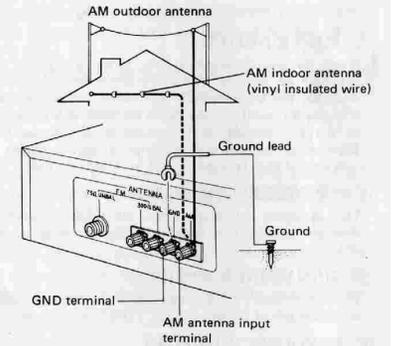

Fig. 5
- If the bar antenna is insufficient for adequate reception, an indoor AM antenna can be made from a length (5 to 6m) of vinyl insulated wire. As shown in Fig. 5, connect one end of the wire to the AM antenna terminal and suspend the free end from an wall or ceiling as high as possible.
- If reception is still poor with an indoor antenna, use vinyl insulated wire to erect an outdoor AM antenna between two supports as shown in Fig. 5.
For reducing noise, Pioneer recommends that you ground as shown in Fig. 5. Connect the ground lead to the GND terminal. Never connect it to a gas pipe or other dangerous location.